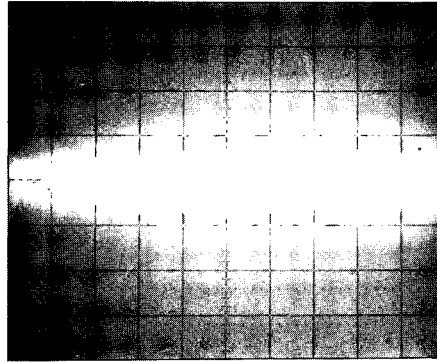

Figure 5-4. Waveform at A12Q11 Source.
- g. Adjust potentiometer A12R1 until dc level of displayed waveform is 0mV ± 10 mV. Refer to Figure 5-4 which shows well-adjusted waveform.